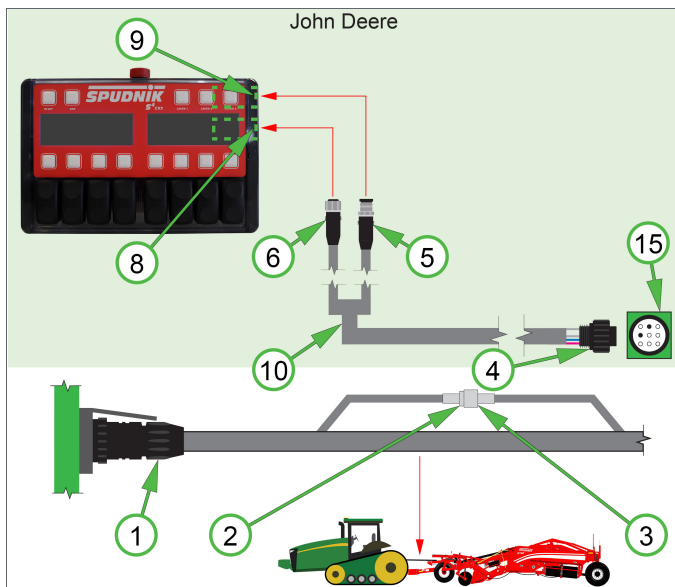
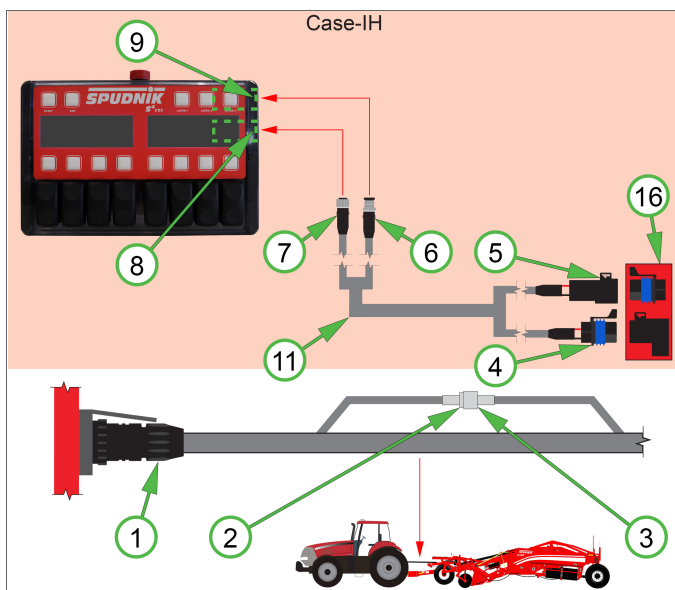
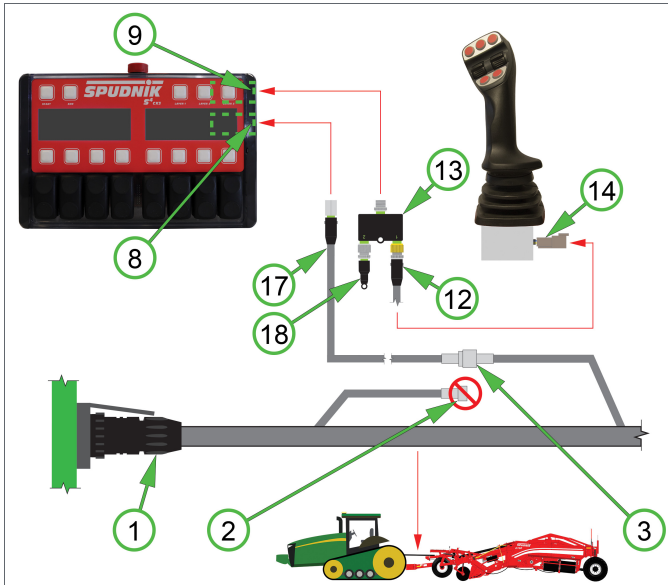

Figure 7
Figure 8
Figure 12
With the CX3 controller mounted in the tractor, configure the ISOBUS connectivity as appropriate for the towing tractor and the desired functionality. (See [\[Info\]](#), and Figure 7 through Figure 12)
Legend for Figure 7 through Figure 12: (1) Tractor ISOBUS, (2) CAN Disconnect B, (3) CAN Disconnect A, (4) Connector C1, (5) Connector C2, (6) Connector C3, (7) Connector C4, (8) CAN In [Pin], (9) CAN Out [Socket], (10) CAN Bus Cable PN 440035, (11) CAN Bus Cable PN 440036, (12) CAN Bus Cable PN 440401, (13) Spudnik "Y" Adapter PN 440021, (14) Joystick CAN Connector [Pin], (15) In-cab ISOBUS Connector 9-Pin, (16) In-cab ISOBUS Harness [Inline], (17) CAN Bus Cable PN 440109, (18) CAN Bus Terminator PN B94.01736.
In-Cab ISOBUS connection (with CX3). (See [\[Info\]](#), Figure 7, and Figure 8)
Back-window ISOBUS connection (with CX3 & Joystick). (See Info and Figure 12)